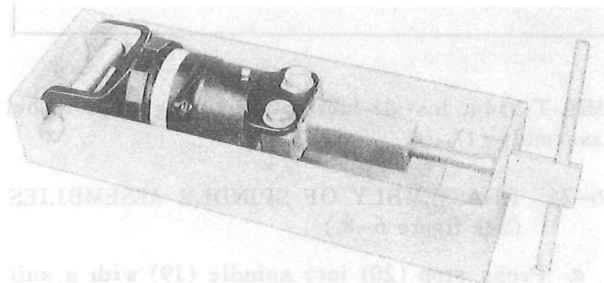

Figure 6-10. Removing Sleeve from Spindle Assembly
d. Pull sleeve (11, figure 6-8) from spindle (19) with puller, part No. S1670-10438. (See figure 6-10.)